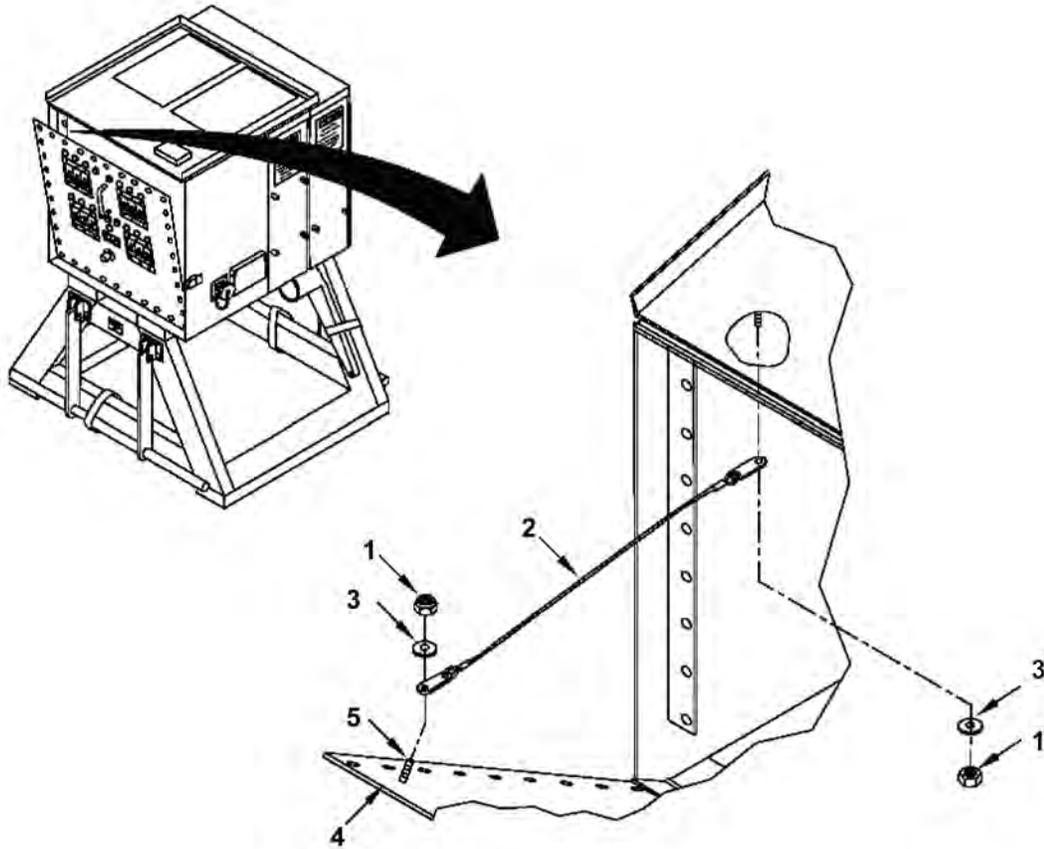

Figure 1. Lanyard, Circuit Breaker Panel.
3. Position lanyard (Figure 1, Item 2) and secure it to the mounting studs (Figure 1, Item 5) by installing two flat washers (Figure 1, Item 3) and two lock nuts (Figure 1, Item 1).
4. Perform steps contained in WP 0027 to secure circuit breaker panel (Figure 1, Item 4).